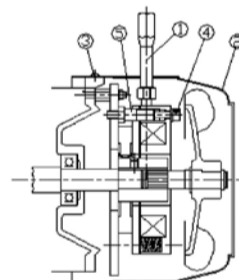

Fig. 2. Construction of an SB brake
- Turn the manual release lever (1 in Figure 2) and remove it beforehand. Remove the brake covers (2 and 3) and expose the brake body.
- Adjust the distance between the brake disks at an optimum gap by loosening the lock bolt (4) and turning the 3 adjusting bolts (5). After the adjustment, tighten the lock bolt (4) firmly.
- Check the gap at 3 points along the circumference, which are separate from each other at 120 degrees, to make it sure that the optimum gap is set at all the measuring points. Reinstall the brake covers (2 and 3) and the manual release lever (1).